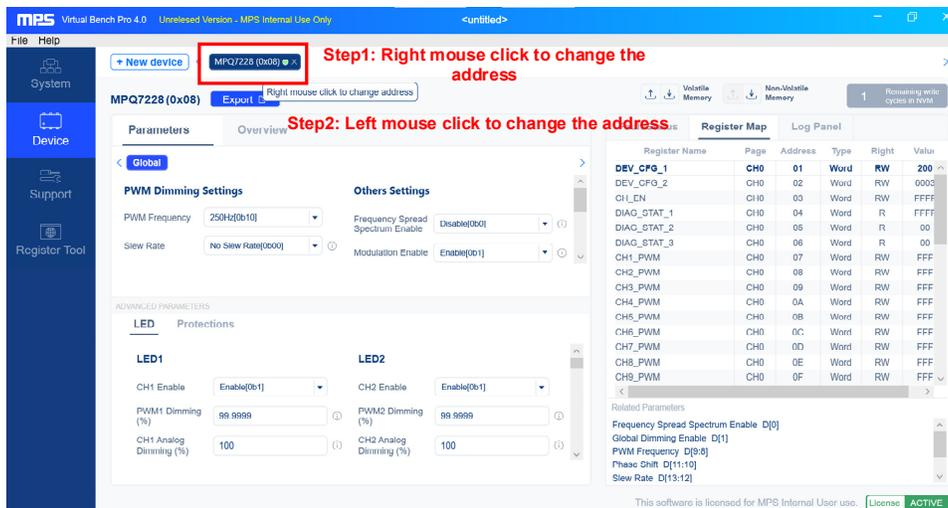

Figure 12: Change Address in Virtual Bench
- g. The evaluation board’s default address is 0x08. To select the correct address, right-click on “MPQ7228 (0x00)” and change the address (see Figure 12).